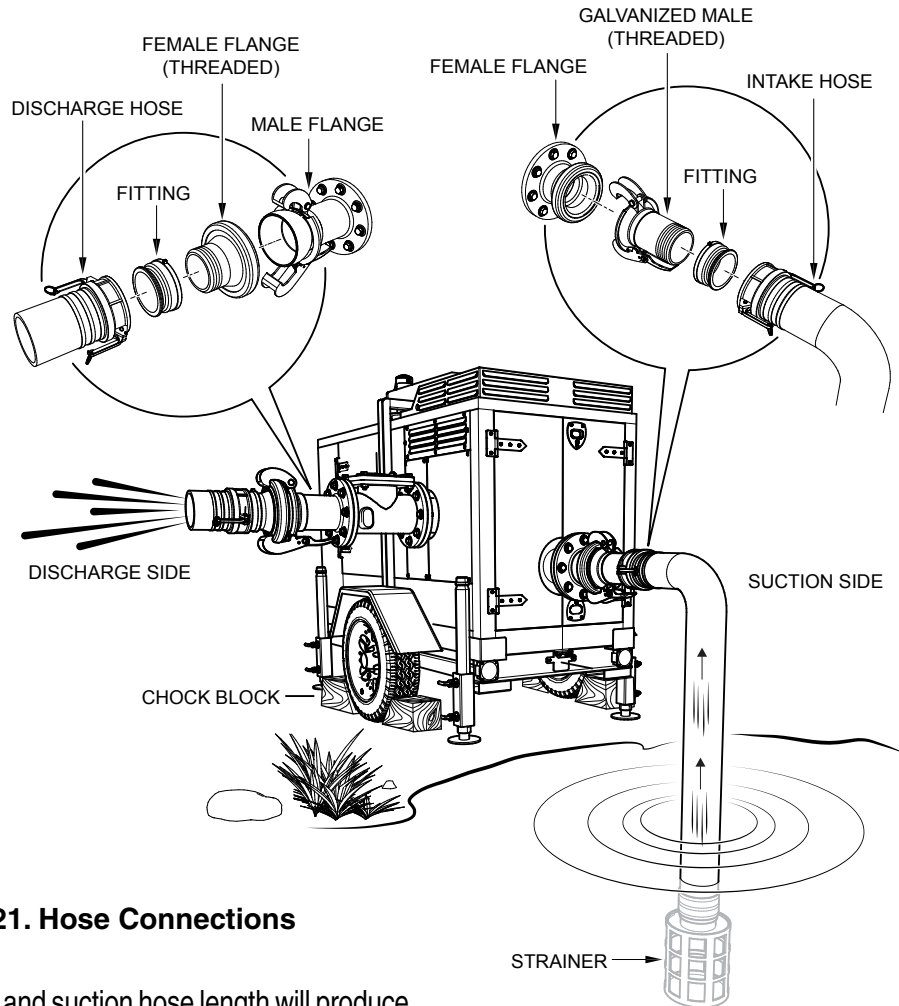

Figure 21. Hose Connections
1. Check that the suction and discharge hoses (Figure 21) are securely attached to the pump via Bauer™ couplers and are not restricted.